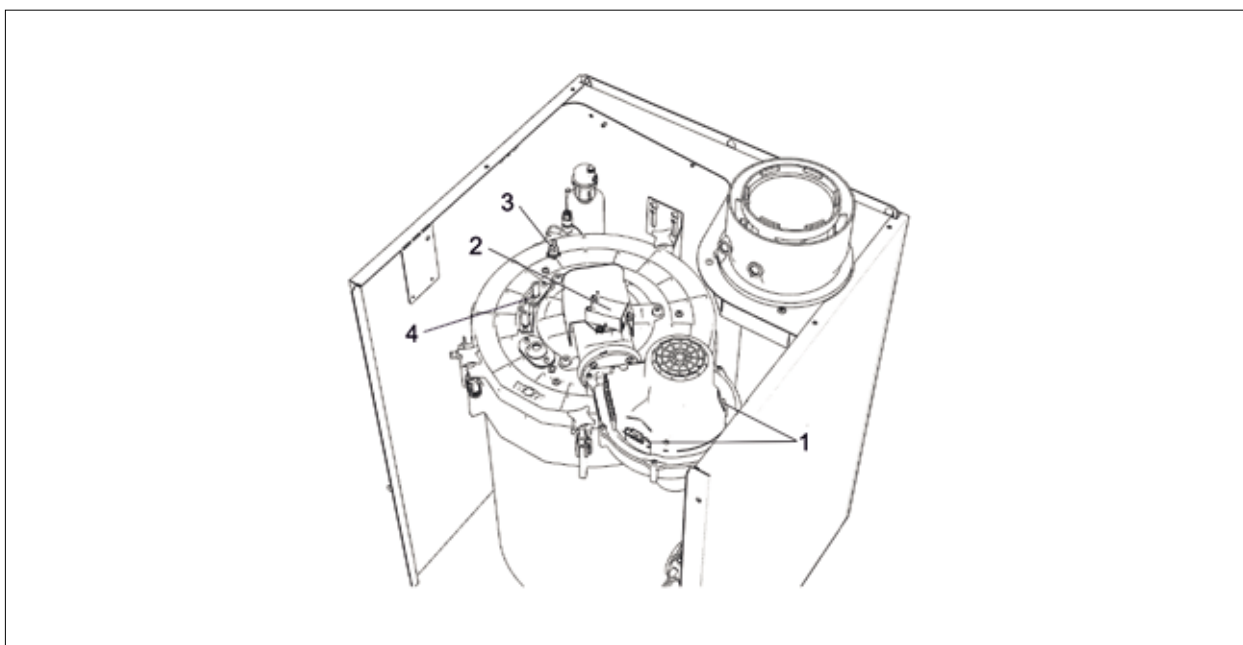

Fig. 5.5 Disconnecting the burner cable
- ▶ Connect the ignition and ionisation electrodes, HLSC connector and fan, see Fig. 5.5.